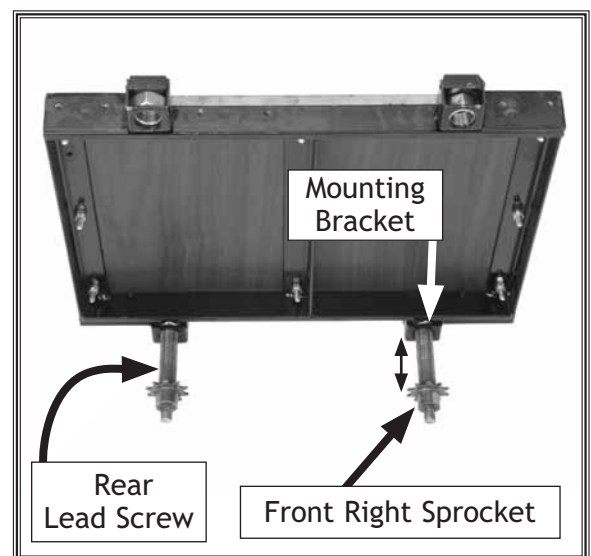

Figure 53. Conveyor belt removed from table.
26. Remove the belt to expose the table as shown in **Figure 53**.
32. After you have reinstalled the conveyor table, make sure the four lower pressure roller adjustment bolts are threaded the same distance into the roller mount brackets (**Figure 53**).